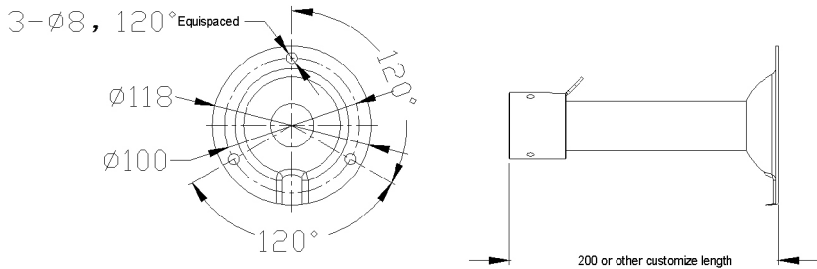

Fig 6-2 Hoisting bracket dimension
1. Select a suitable place for installation, and punch on the surface, bracket dimension as fig 6-2.